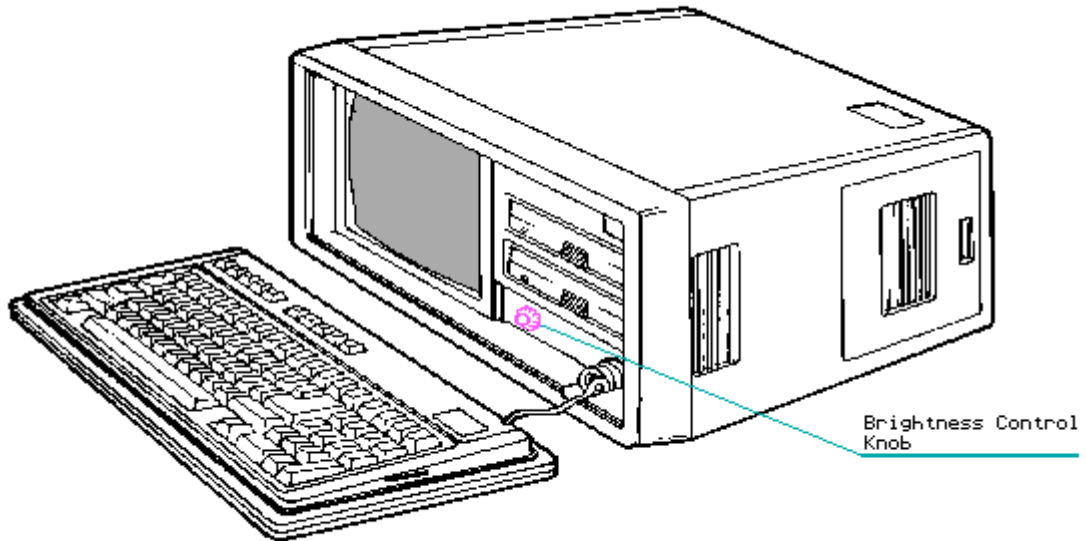

Figure 8-20. Location of Brightness Control Knob
5. Turn the external brightness knob (located on the front bezel) fully clockwise (Figure 8-20.)